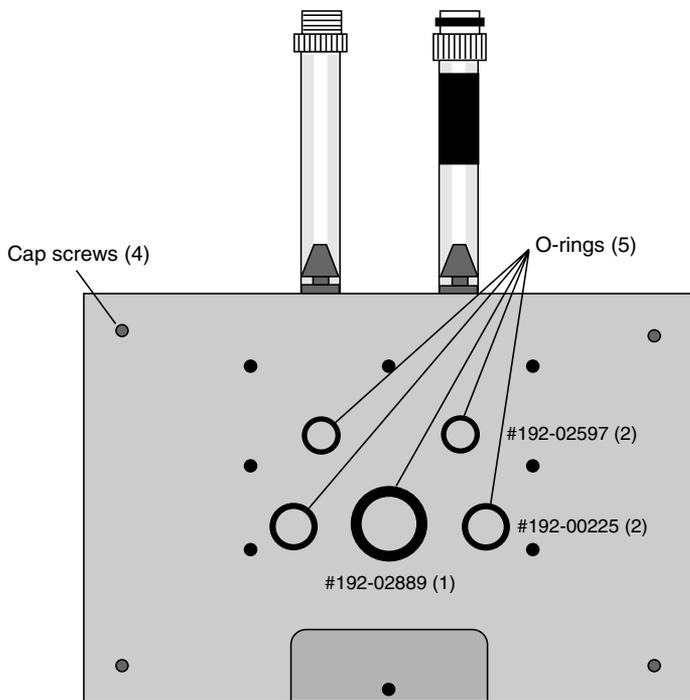

Figure 2-12. Location of O-rings and cap screws.
7. Make sure all O-rings are properly positioned, as shown in Figure 2-12.